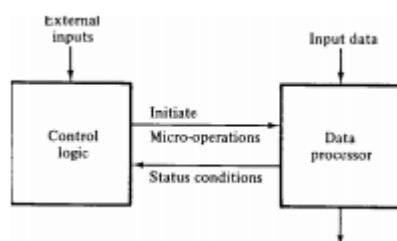

Fig 5.11 Control and data-processor interaction
- The relationship between the control and the data processor in a digital system is shown in Fig.5.11